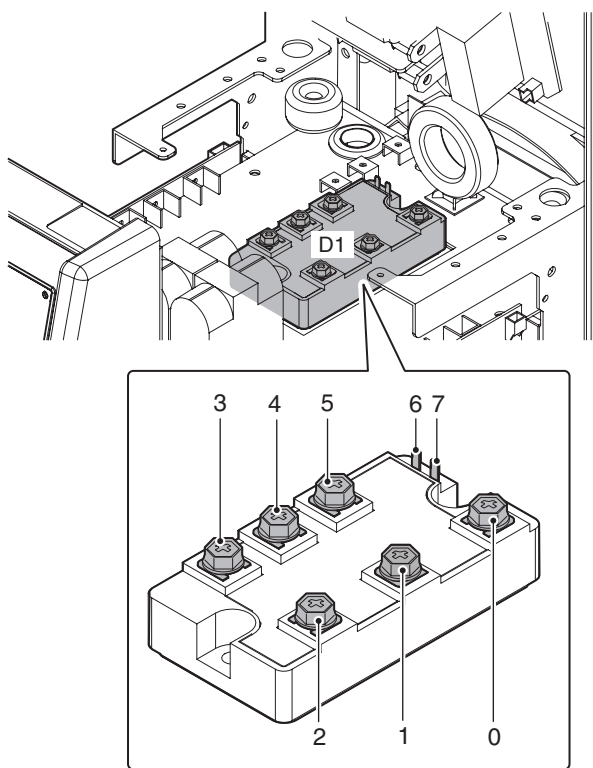

Figure 9-7: Tester checkpoints in the primary diode (D1)
2. Refer to Table 9-1 and Figure 9-7, 9-8 for the checkpoints on D1.